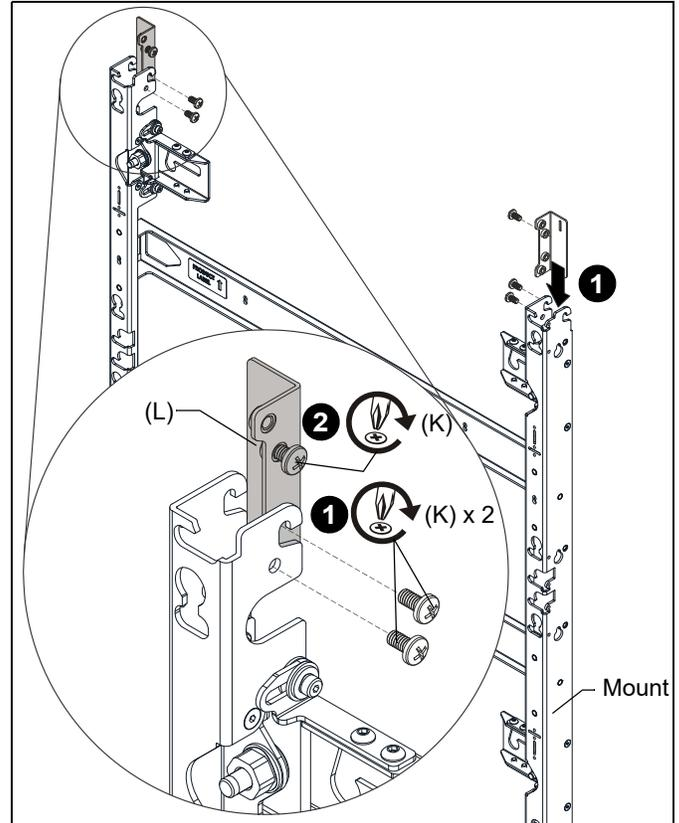

Figure 3
1. Slide the vertical connector (L) down from the top of the mount, and attach with two 1/4-20 x 1/2" Phillips pan head screws (K) per vertical connector. (See Figure 3)
2. Partially install one 1/4-20 x 1/2" Phillips pan head screw (K) in the lower screw hole at the top of each vertical connector (L). (See Figure 3)